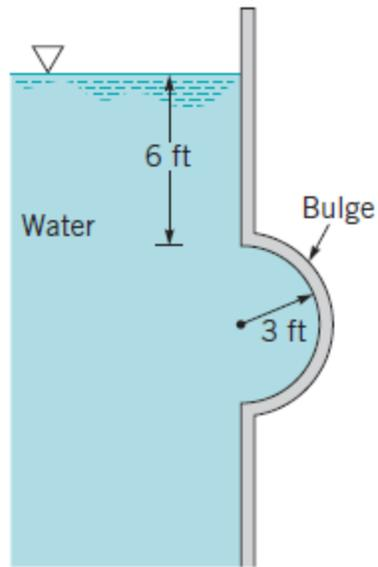

Fig. 14.
16. An open tank containing water has a bulge in its vertical side that is semicircular in shape as shown in Fig. 14. Determine the horizontal and vertical components of the force that the water exerts on the bulge. Base your analysis on a 1-ft length of the bulge.